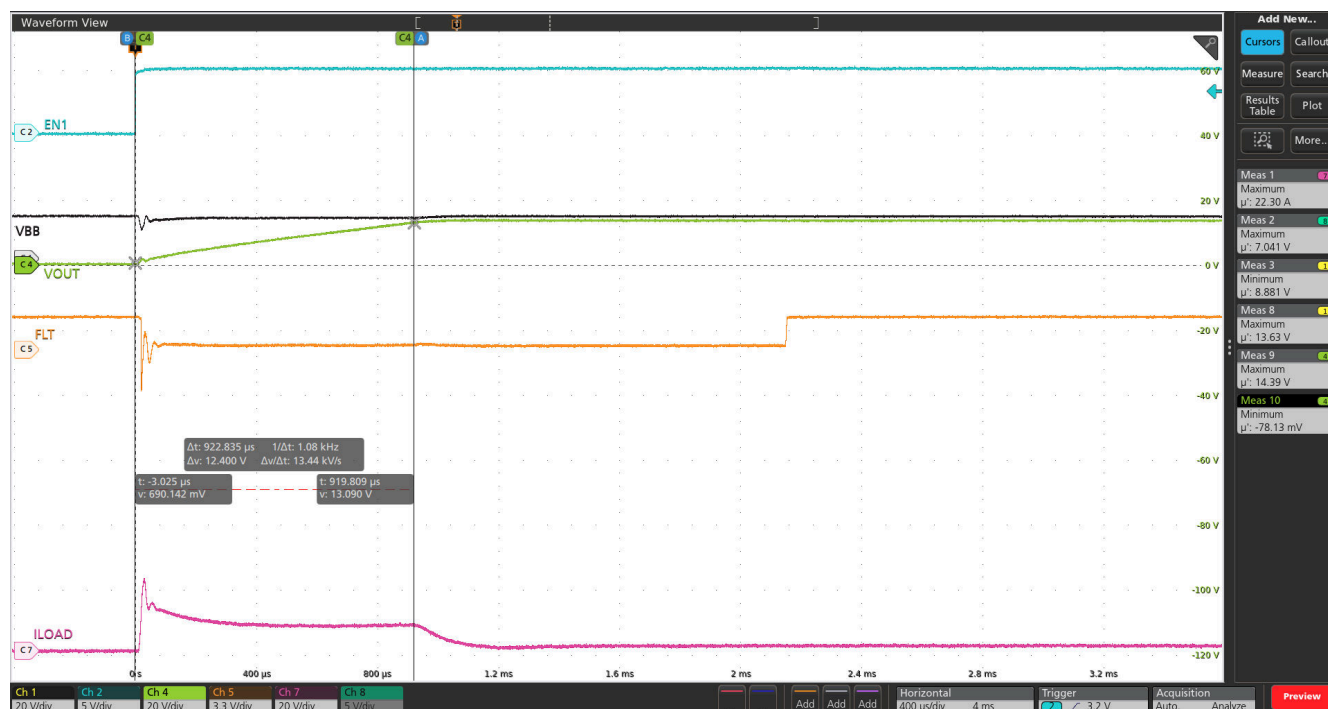

Figure 8-30. 680uF Capacitive Load Charging with TPS1HC04-Q1 Device at 13.5V VBB, ILIM Pin OPEN and 125°C Ambient Temperature
- **Expanded Capacitive Load Range:** The thermal-regulated current limiting significantly expands the range of capacitive loads that can be safely charged without triggering thermal shutdown, as shown in Figure 8-30. By dynamically adjusting current based on thermal conditions, the device can handle much larger capacitances than traditional high-side switches.